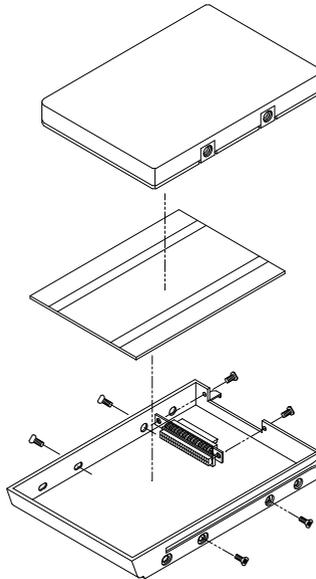

Figure 2-11
1. Remove the two screws on each side of the case. (Figure 2-11)